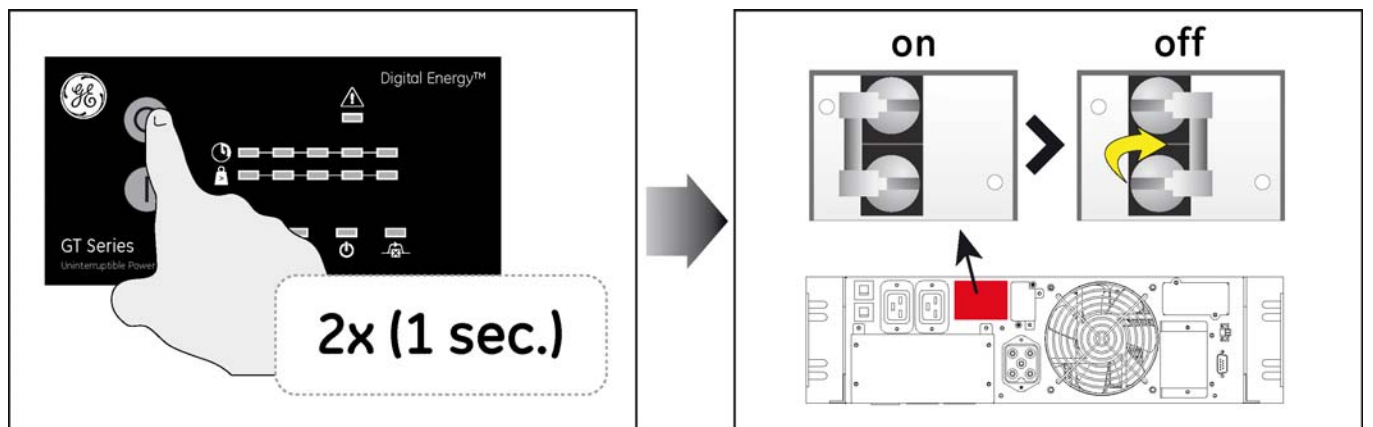

Fig. 2
- Fig 2: Press keypad "0" 2 times for 1 second to switch off the UPS. And turn the UPS input switch to position "Off".